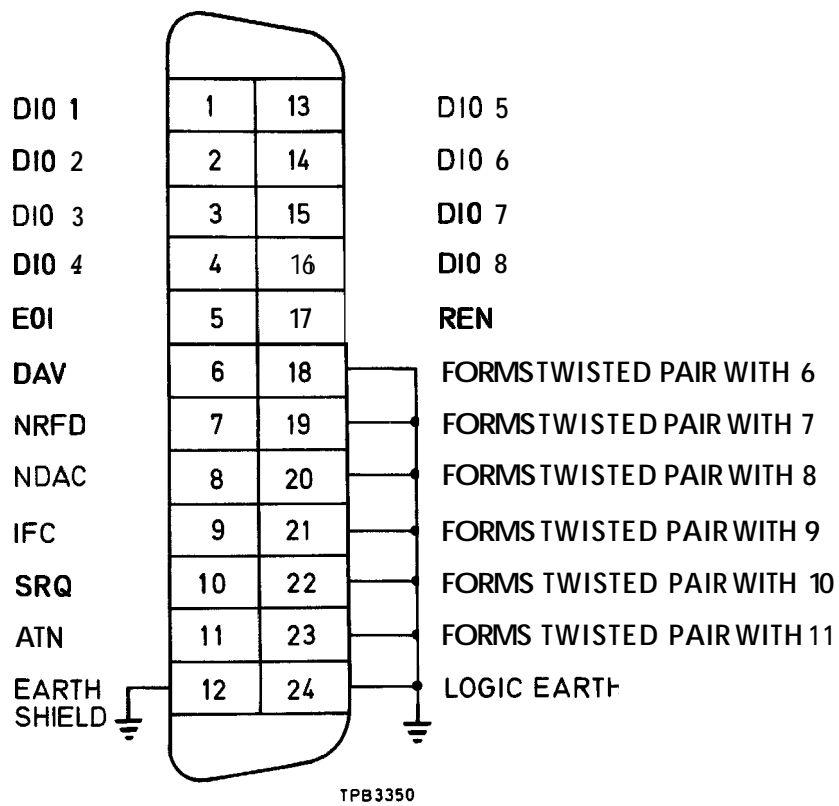

Fig. 3 GPIB connector contact assignments
51. The contact assignment of the GPIB cable connector and the device connector is as shown in Fig. 3.